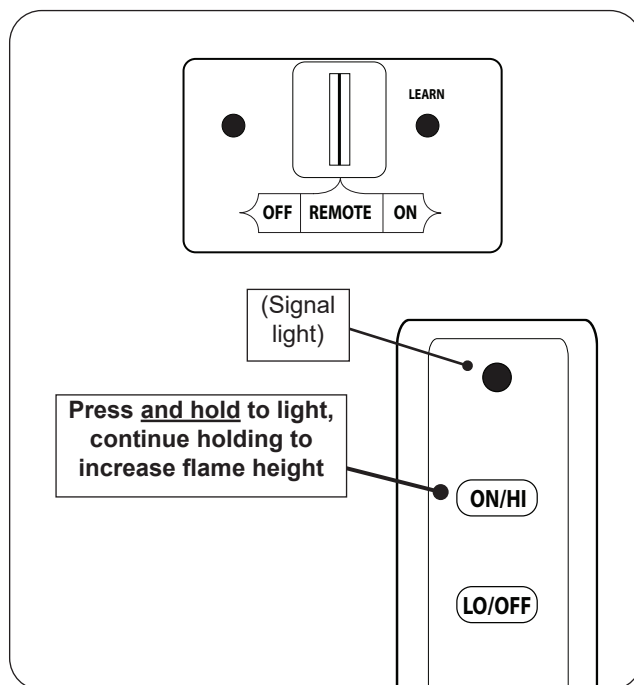

Fig. 37-1 Remote lighting
1. Ensure the pilot is burning. Locate the 3-position switch on the remote receiver, and slide the switch to **REMOTE** (see Fig. 37-1).
2. Locate the remote transmitter and press and hold the **ON/HI** button (see Fig. 37-1). The ignition sequence will begin.